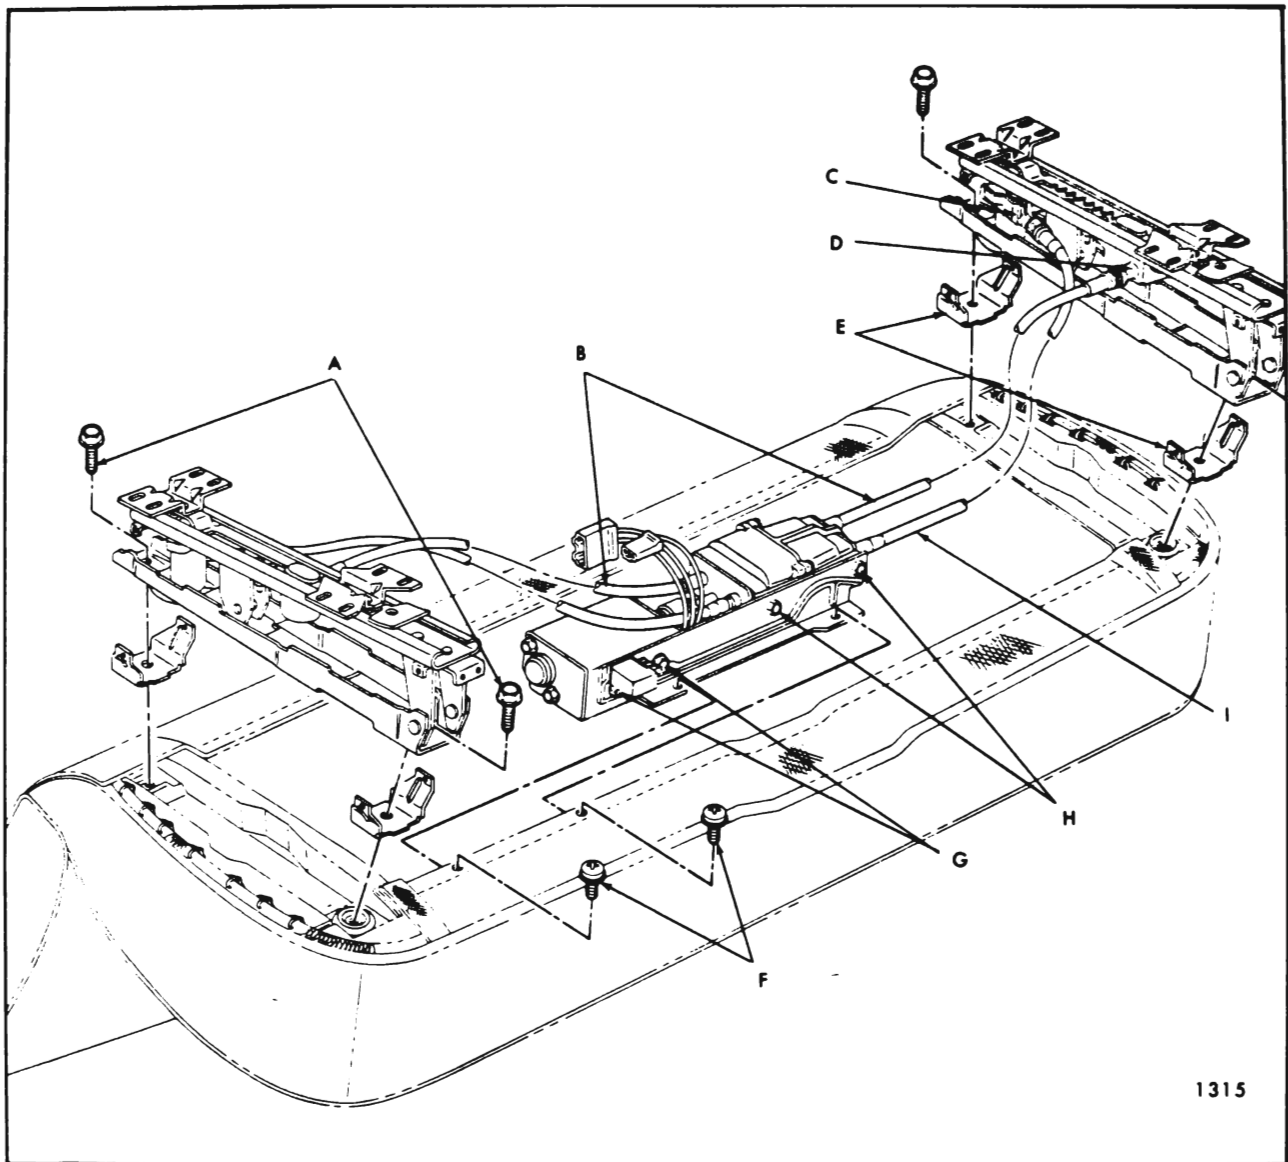

Fig. 15-5—Front Seat Assembly - Four-Way Tilt - Buick "B, C & E" Styles
5. To install seat adjuster assembly, reverse removal procedure. On seats with adjuster track covers, make sure track cover supports are installed between adjuster and seat frame (Fig. 15-5, 15-6 and 15-7). Check operation of seat adjusters and make sure adjusters are "in phase" before installing assembly into body (See Step 6 under "Front Seat Assembly - Removal and Installation").
3. Remove screws securing motor and transmission support to seat bottom frame (Fig. 15-5).